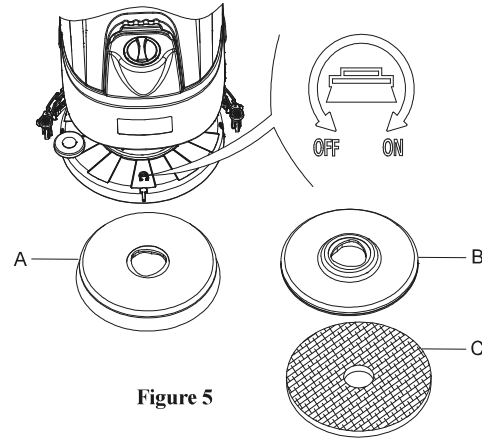

Figure 5
Install either the brush (A, Figure 5) or pad-holder (B and C, Figure 5) according to the type of floor to be cleaned.
3. Place the brushes (A, Figure 5) or the pad-holder (B, Figure 5) under the deck (12, Figure 1).
7. If Step No.6 above proves to be difficult, use the manual method by turning the brush/pad-holder in the direction opposite to the normal turning direction, and it can be taken off. (as shown in Figure 5)